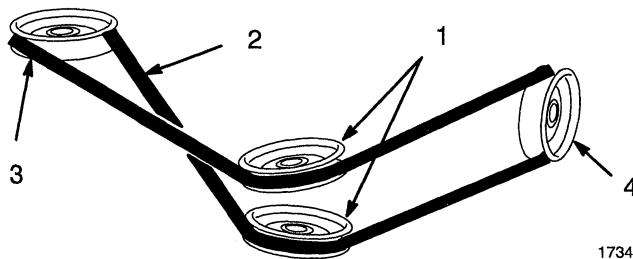

Figure 8
14. Install drive belt as shown around idler pulleys and right side mower pulley. (Fig. 8).